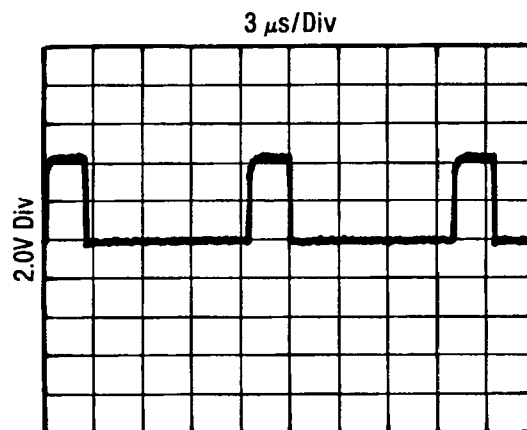

Figure 8-17. 80 kHz Reference, A2A5TP2
11. Connect an oscilloscope to 80 kHz REF, A2A5TP2. The waveform should be as shown in figure 8-17.